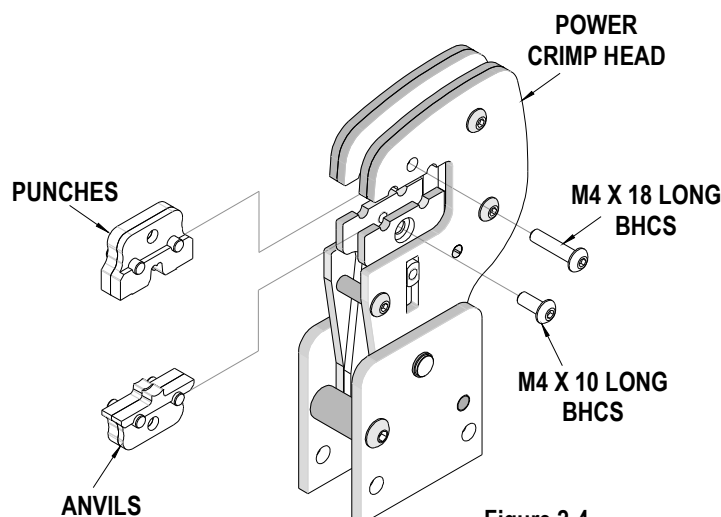

Figure 2-4
2. Insert the Punches into the top slots of the nest with wire size markings to the front. Install the M4 x 18 long BHCS and tighten in place. See Figure 2-4.